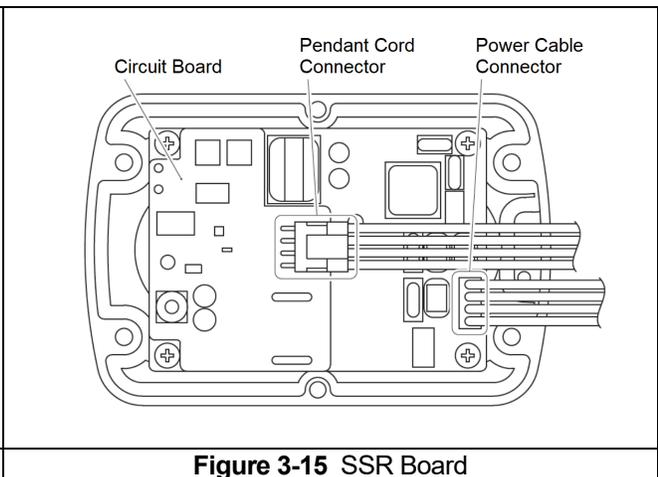

Figure 3-15 SSR Board
- Connect the Connectors to its appropriate mate inside the hoist (see **Figure 3-15**).